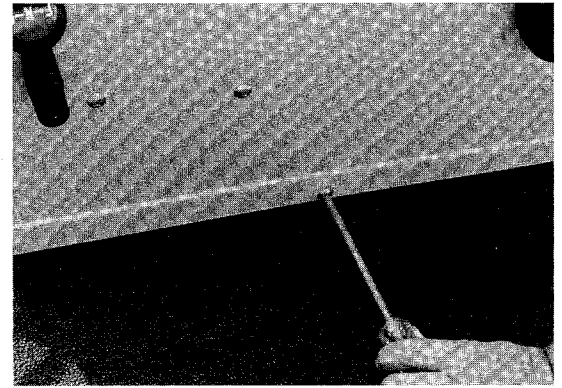

Figure 14-23
3. Remove two bolts (4) and locknuts (3) located at body kick plate (Figure 14-23).
2. Loosen 2 bolts in body kick plate (**Figure 14-23**) and remove rear edge of floormat from between body and floor panel.